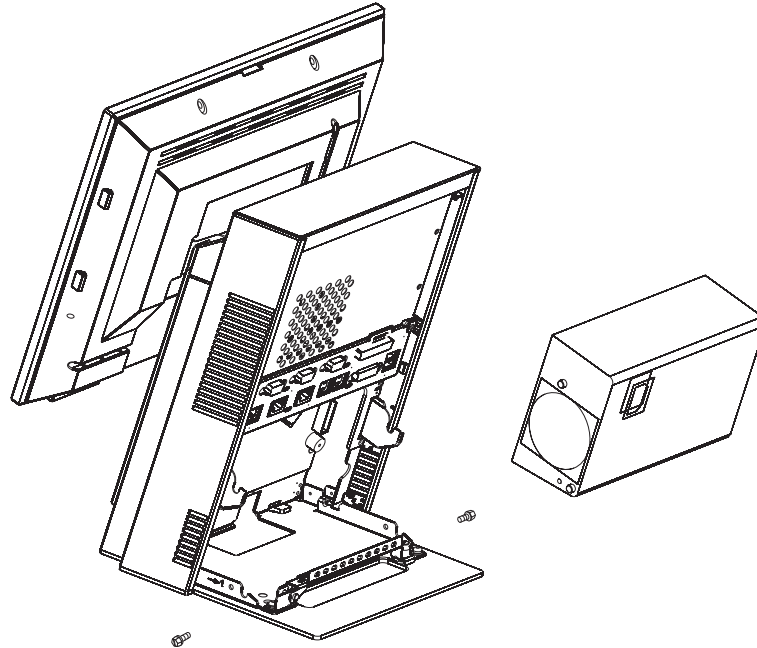

Figure 54. Power supply remove/replace
3. See Figure 54. Remove the two screws located at the base of the power supply.